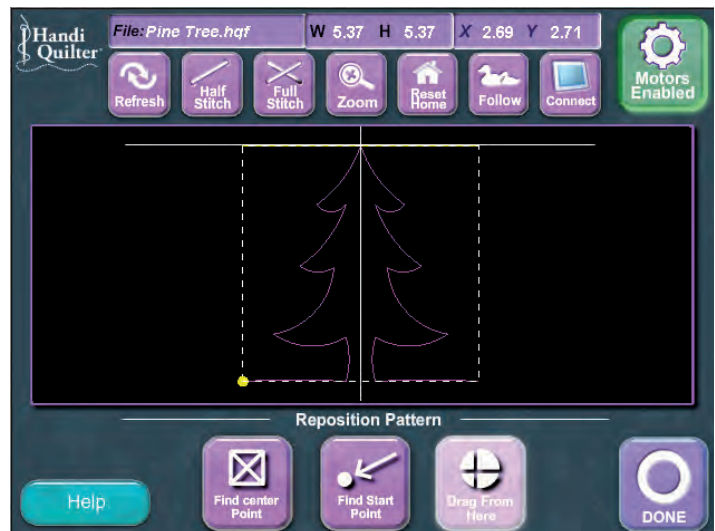

Figure 33
2. Watch the screen while moving the machine and position the crosshairs on the point that is to be the reference for positioning (i.e., a corner of the pattern block, or a specific point on the pattern that needs to match up with a certain spot on the quilt, such as the top of the tree shown in Figure 33). Use the “Pan/Zoom” feature to reposition the pattern on the screen, if needed.
3. Press the “Drag From Here” button. The icon will change to “Move Pattern” and turn green (Figure 33).